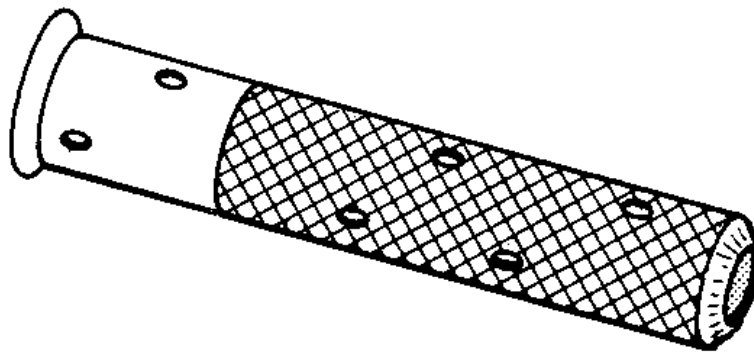
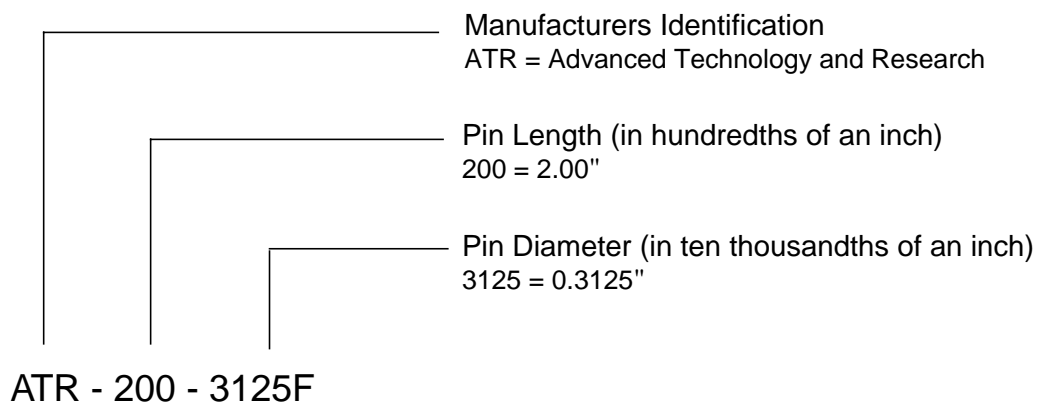

Figure 1 - General Description of Panel Pins
Figure 2 - Part Number Breakdown
- 4.1.1 ATR (Advanced Technology and Research Co.) panel pins as specified on the engineering drawing. Refer to Figure 1 for a general description of the pins. Refer to Figure 2 for the panel pin part number breakdown.